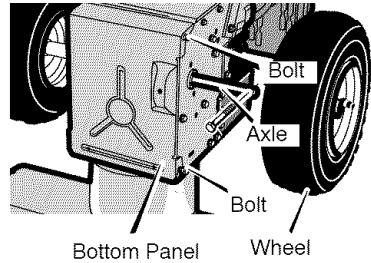

Figure 41
4. Remove the fasteners that secure the right **wheel**. Remove the **right wheel** from the **axle** (see Figure 41)
- Install the **bottom panel** (see Figure 41).